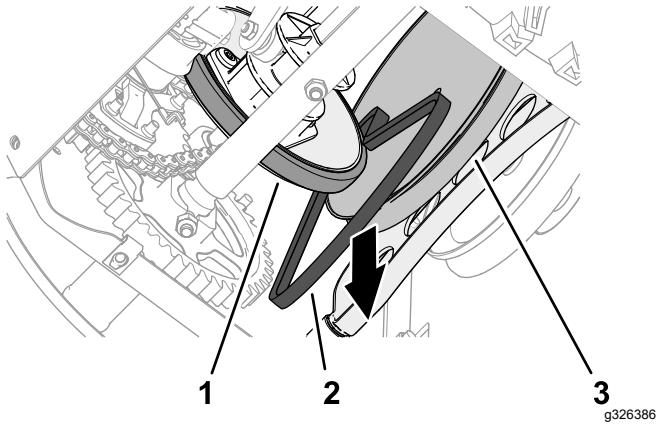

Figure 48
7. Slip the traction belt between the friction wheel and the traction pulley, and remove the belt from the machine (Figure 48).